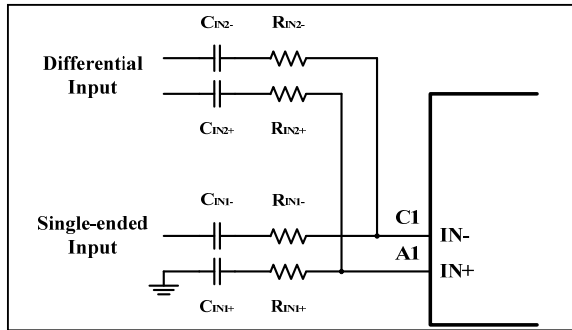

Figure 13 Summing Differential Input and Single-Ended Input Signals
Figure 13 shows how to sum a differential input signal and a single-ended input signal. Ground noise may couple in through $IN-$ with this method. It is better to use differential inputs. The gain for each input source can be set independently by Equations (4) and (5). The corner frequency of the single-ended input is set by C_{IN2} , shown in Equation (6).